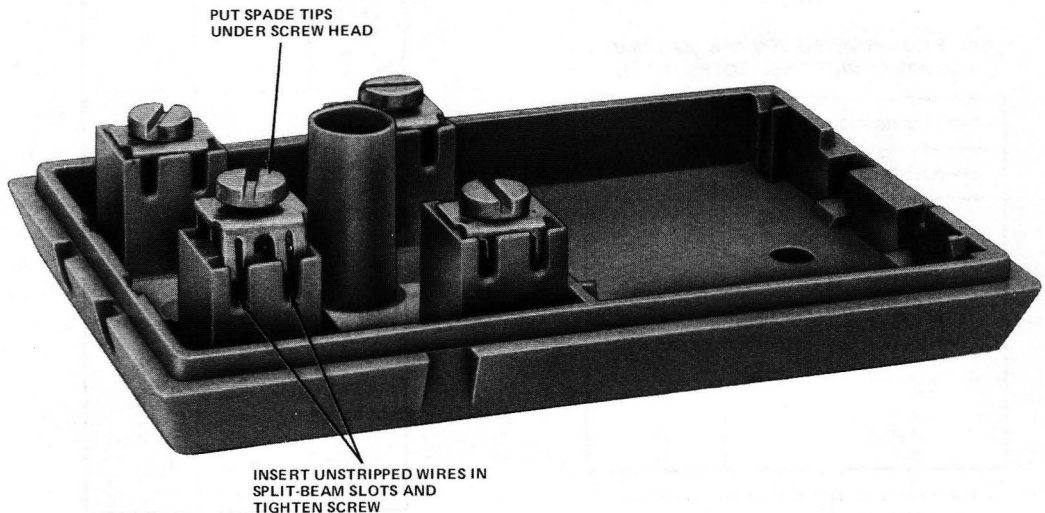

Fig. 9—Split-Beam Terminal Connections on 42E Connecting Block
3.07 Installation of the 42E connecting block is the same as the 42B except for the method of connecting the station wire conductors (Fig. 9). It is not necessary to strip the insulation from the conductors before inserting them into the notches under the split beams of the screw terminal assemblies.●